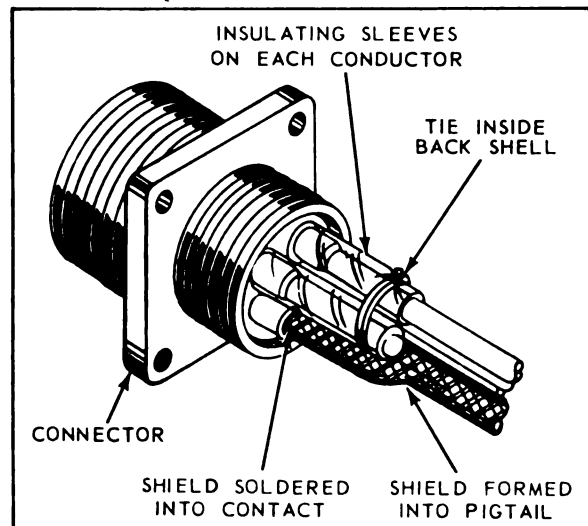
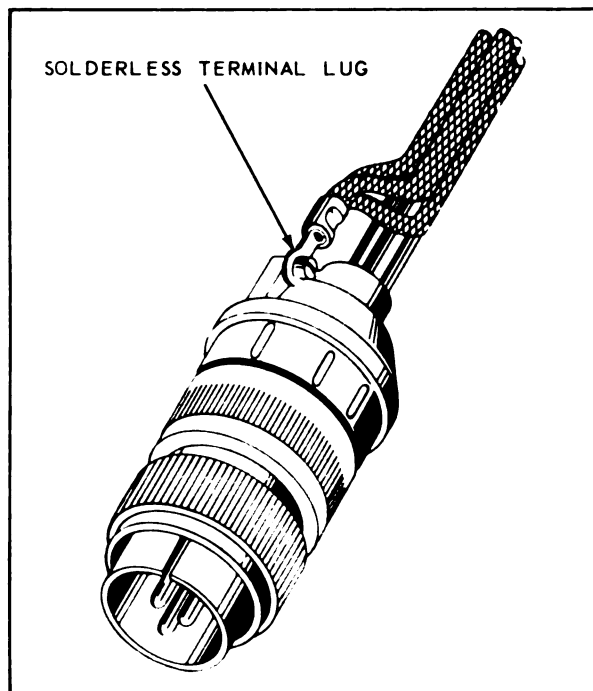
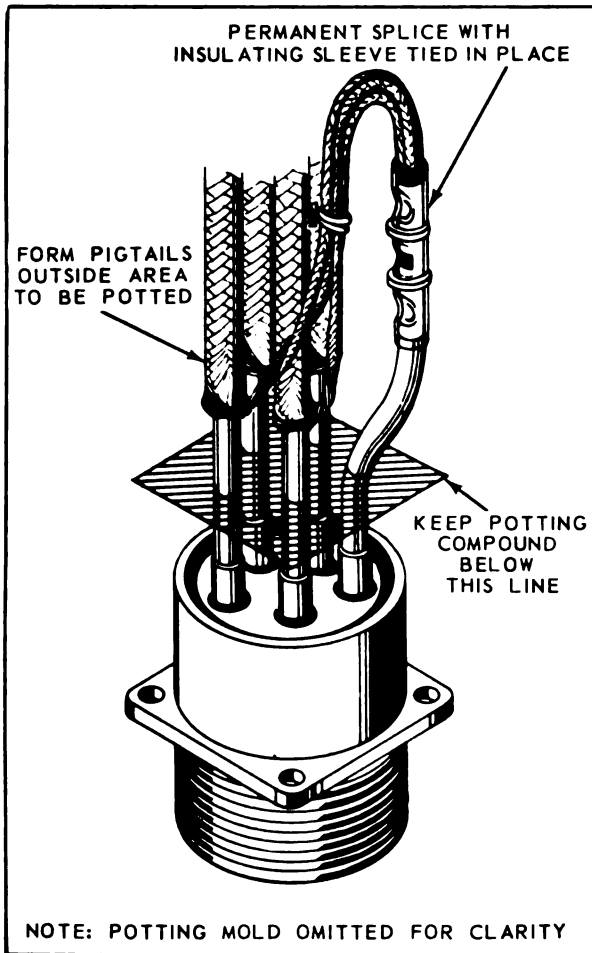

Figure 3-76. Terminating Shielded Wire at MS Connector
Figure 3-77. Grounding Shields Outside Connector
Figure 3-78. Terminating Shielded Wires at Potted Connector
3-97. CONNECTING SINGLE SHIELDED WIRE TO MS AND POTTED CONNECTORS. Terminate single shielded wires as described in section II paragraph 2-59. For connection to Class A, B, C or K connectors, shield must end inside back shell as shown in figure 3-76. For connection to Class E, Class R or potted connectors shield must end outside seal. Crimp pigtail into terminal lug and ground to screw as shown in figure 3-77, or use permanent splice to join pigtail to short length of AN wire which is then terminated inside connector to contact in regular manner, as shown in figure 3-78.
e. Slide insulating sleeve over splice and tie in place as shown in figure 3-78.
f. Solder single wire to proper contact in connector as shown in figure 3-78.
c. Attach terminal lug under screw, as shown in figure 3-77.